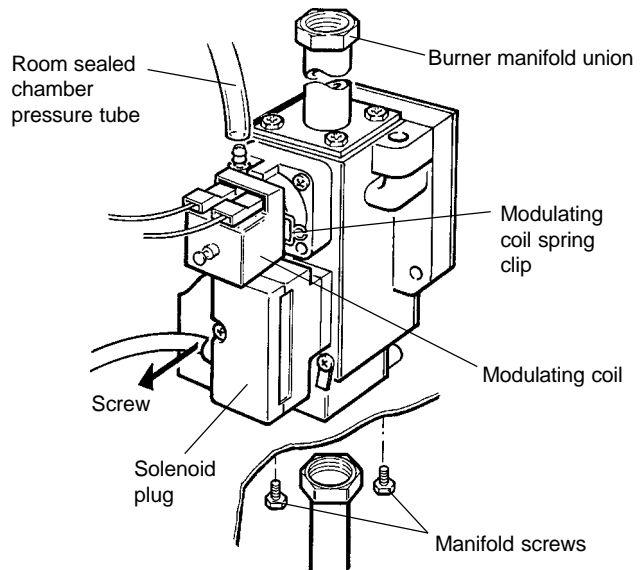

Fig. 26
### 8.10 GAS VALVE - Fig. 26
4. Loosen the screw (see Fig. 26) securing the solenoid plug and disconnect the plug.
### 8.11 GAS VALVE MODULATING COIL - Fig. 26